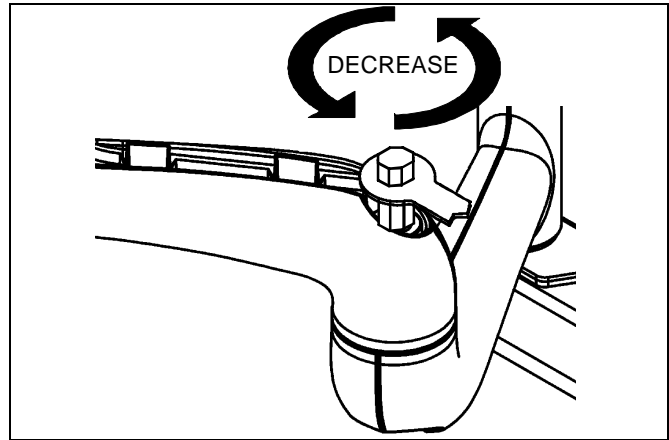
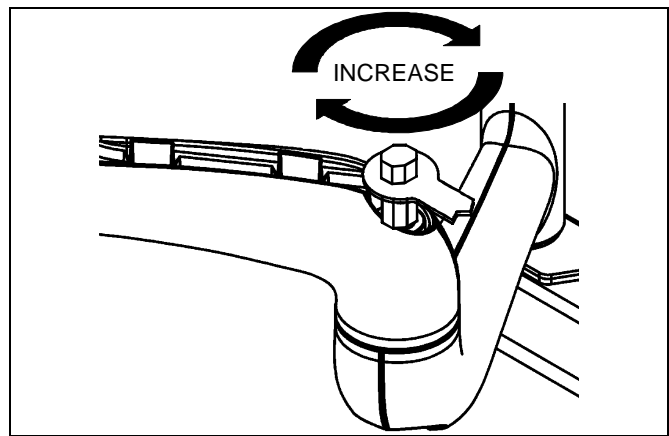

Figure 8
Figure 9
4. Using the adjustment wrench (P), turn adjustment bar (N) clockwise to increase swing arm tension or counterclockwise to reduce swing arm tension. (Small adjustments of 1/8 turn or less are typically all that is required to achieve desired tension.) (See Figure 8) and (See Figure 9)